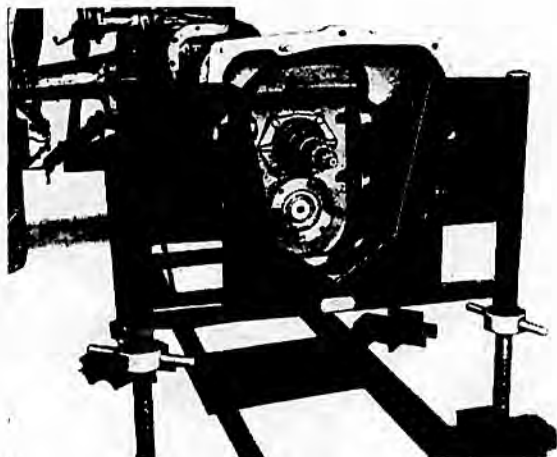

FIG. 8
To Remove Main Drive Shaft Retainer (Dual Clutch Models) (J-3b) (Fig. 8)
3. Remove front P.T.O. cap and setscrews and gasket. Remove snap ring from solid front P.T.O. main drive shaft and using two slave setbolts ($\frac{9}{16}$ " \times 3" A.F.), (See Fig. 8), in tapped holes, remove bearing housing, gasket and bearing. Remove thrust washer, noting that the raised lip faces forward.
8. Remove front P.T.O. cap with setscrews and gasket. Remove snap ring from solid front P.T.O. main drive shaft and using two slave setbolts ($\frac{9}{16}$ " \times 3" A.F.), (See Fig. 8) in tapped holes, remove bearing housing, gasket and bearing. Remove thrust washer, noting that the raised lip faces forward.